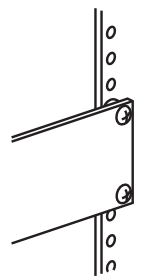

Figure 5. Tighten the screws holding the panel to the rack.
5. Tighten the screws. See Figure 5.